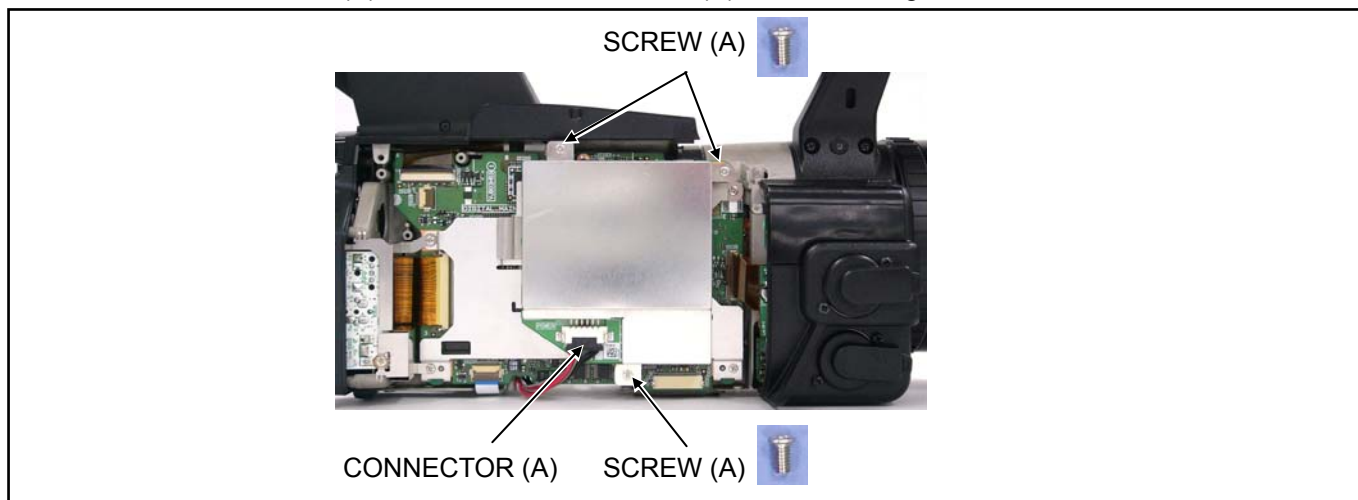

Figure 5-1
2. Disconnect a connector (A) and unscrew the 3 screws (A) as shown in figure 5-1.